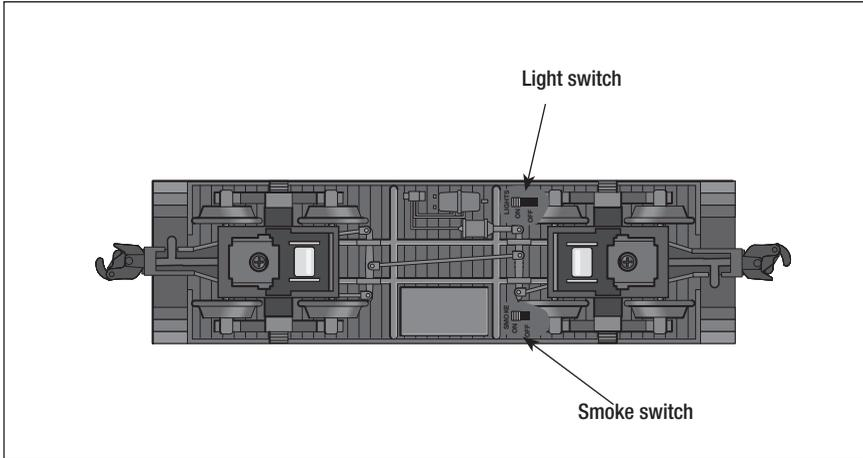

Figure 3. Smoke switch, and light switch
- 5. Slide the SMOKE switch to the ON position to operate with smoke.** Refer to Figure 3 on page 5 for the location of the ON/OFF switch.
As illustrated in Figure 3, the SMOKE switch is located on the underside of your caboose. Sliding this switch to the ON position will activate the smoke generator. Be sure that you have added smoke fluid when the switch is in the ON position. Slide the switch to the OFF position to turn off the smoke unit.
As illustrated in Figure 3, the LIGHT switch is located on the underside of your caboose. Sliding this switch to the ON position will turn on the interior lights. Slide the switch to the OFF position if you prefer to run the caboose without lighting.